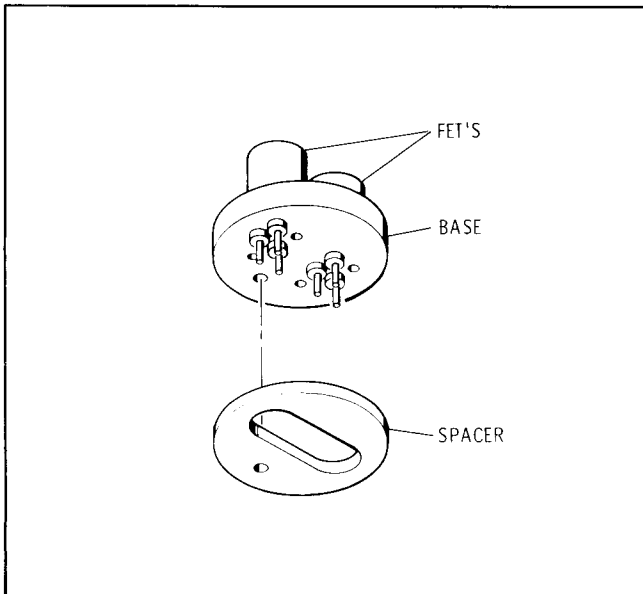

Figure 12. FET Assembly and Spacer
a. Insert the FET Assembly leads through the spacer and printed circuit board. Refer to Figure 12.
f. Gently lift the FET Assembly and spacer from the circuit board. Refer to Figure 12.